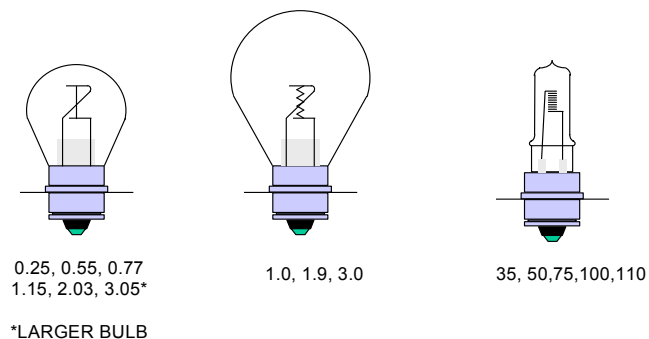

Figure 4-6
- g. Lamps for minor aids to navigation (Figure 4-6) are divided into two categories: tungsten using C-8 and CC-8 filaments, and tungsten-halogen. Tungsten filament lamps are rated by **amperage** and tungsten-halogen lamps are rated by **wattage**. The available lamp sizes are 0.25a, 0.55a, 0.77a, 1.0a, 1.15a, 1.9a, 2.03a, 3.0a, 3.05a, 35w, 50w, 75w, 100w and 110w. The 1.0, 1.9 and 3.0 amp lamps contain coiled-coil (CC-8) filaments and are not suitable for use in drum lenses (155mm, 250mm and 300mm). Lamps are available from ELC Baltimore.